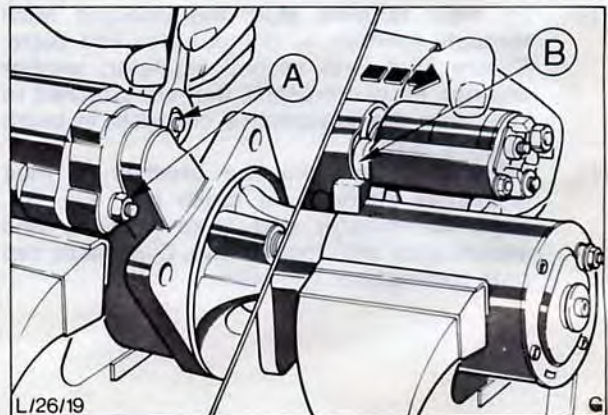

Fig. 36. Unhook solenoid from actuating arm as solenoid is removed
3. Disconnect and remove connector link from main feed terminal and solenoid by removing two retaining nuts and washers. Remove two two solenoid securing nuts and washers and guide solenoid yoke away from drive-end housing, Fig. 36.